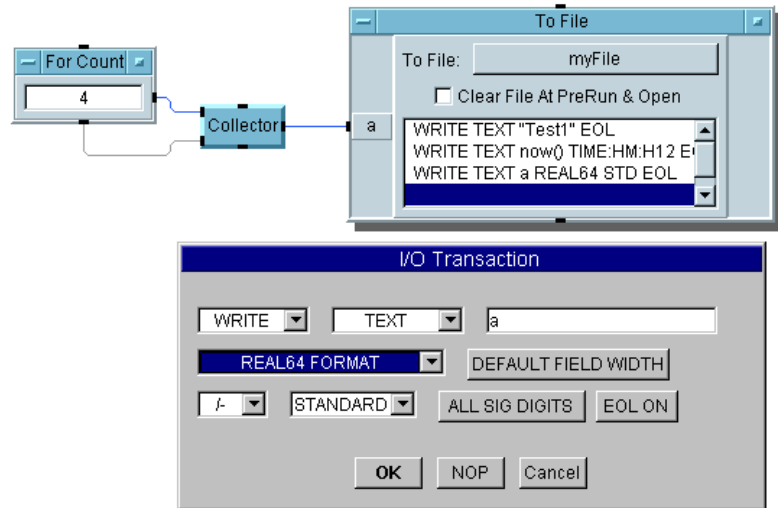

Figure 135 Storing Data Using the To File Object
- 7 Connect the output from the Collector to the input **a** of To File. The program should now look like Figure 135. (The configured I/O Transaction box is also displayed.)